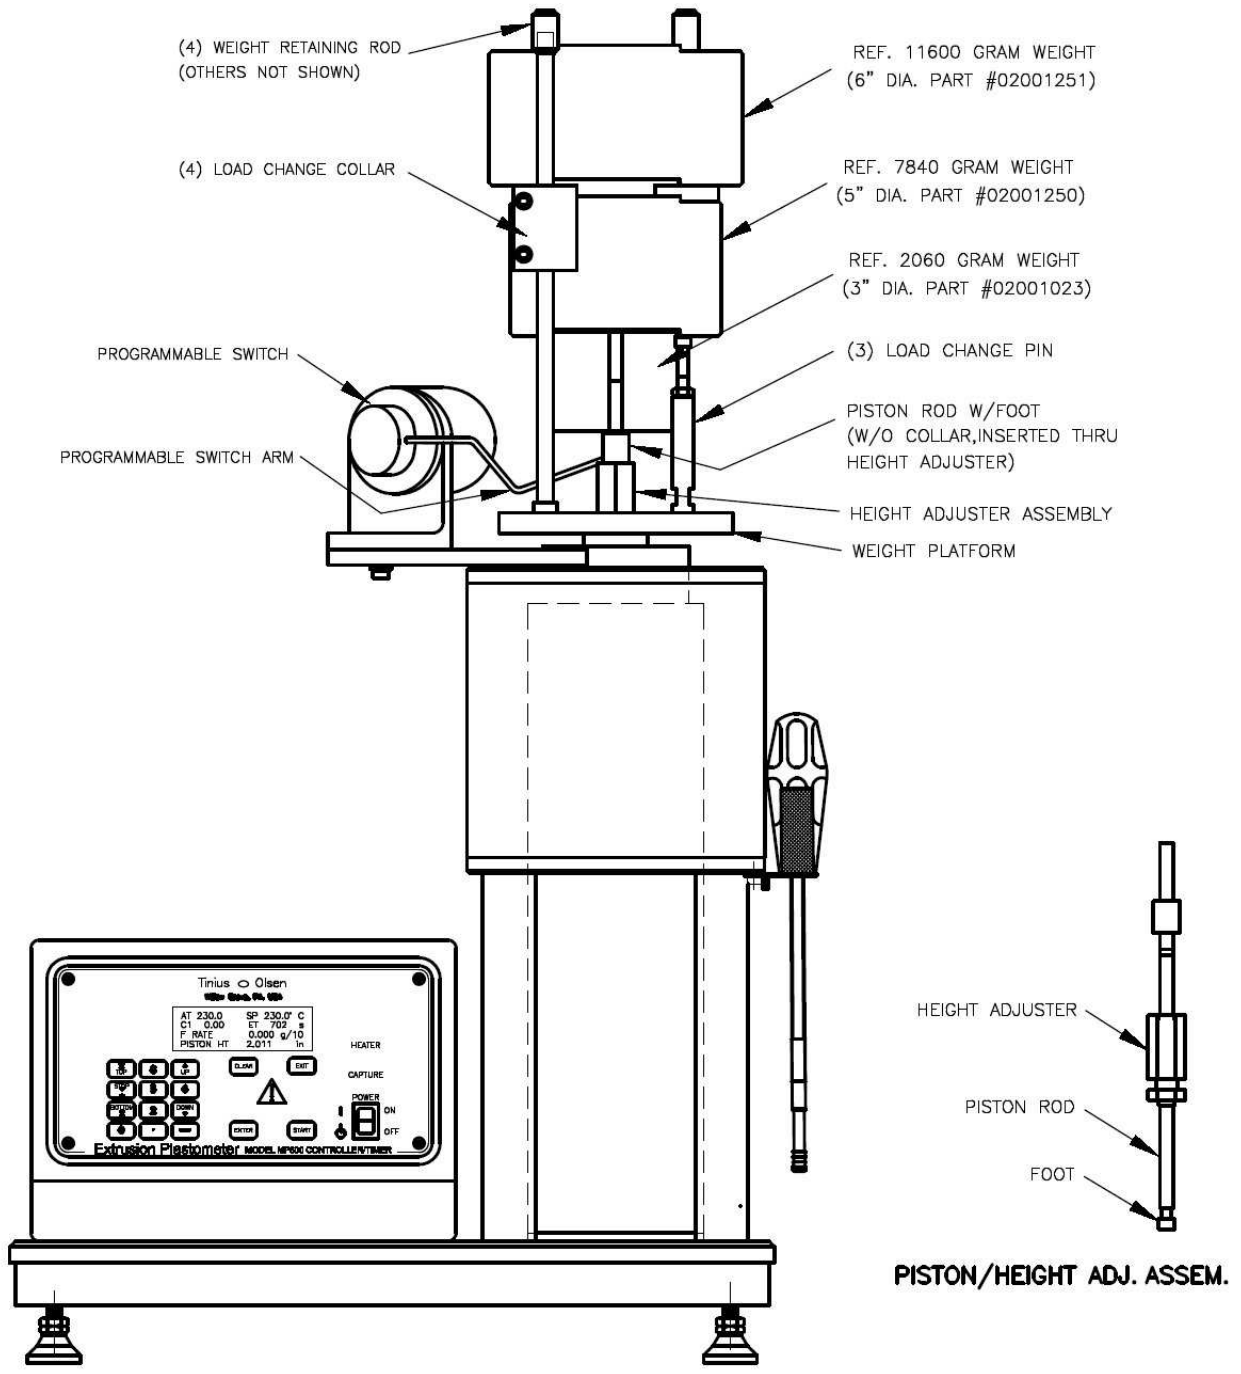

Figure 15-1 - Optional Flow Rate Ratio Package Setup for Three-Load Testing
15.1.2 The FRR Attachment allows flow rate determinations to be made using two or three different test loads on one charge of material. Refer to Figure 15-1 for help with identifying components. Flow Rate Ratio determinations can be made with or without a computer and Tinius Olsen software. However, the use of the software makes setting up and collecting data much easier. Also, the software will calculate the flow rate ratios; whereas, they must be calculated from the basic flow rate data obtained from the MP600 when a computer and Tinius Olsen software are not used.
15.3.9 Remove the piston foot and guide collar from the piston rod. Place the Height Adjuster on the piston rod so that the long hex portion of the adjuster is towards the top of the rod. See Figure 15-1. Reinstall the piston foot. **Do not put the guide collar back on the piston rod at this time.**